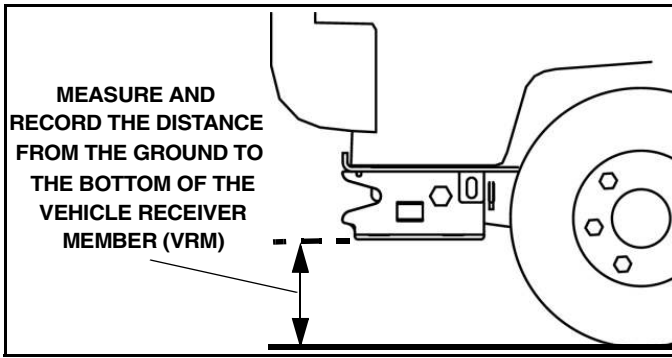

Figure 1-10
12. With the truck parked on a flat level surface, measure and record the distance from the ground to the bottom of the Vehicle Receiver Member (VRM). (See Figure 1-10).